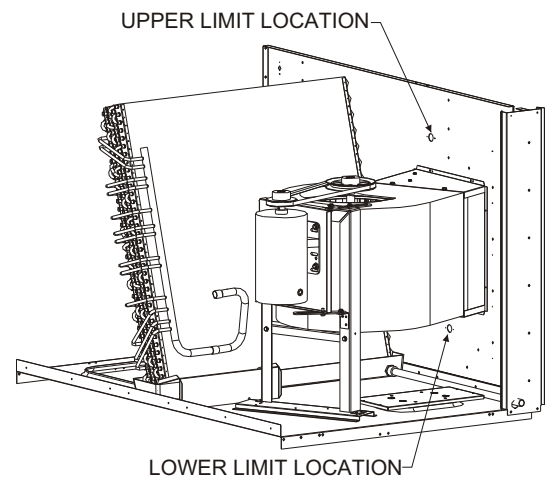

Figure 4
2. Based on the installed Heat Exchanger capacity reference **Table 1** below to determine the correct safety limit switches for horizontal operation. Refer to **Figure 4** for a description of the limit locations in the unit.
- Remove blower access panel and locate main air limits on the interior divider panel near the blower outlet duct. **See Figure 4.**